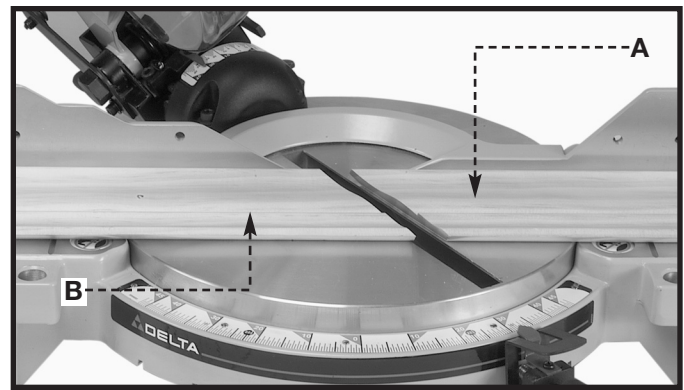

Fig. 43
3. Place the crown molding on the table with the **CEILING EDGE** of the molding against the fence, and make the cut (Fig. 43).
**NOTE:** The piece of crown molding used for the outside corner will always be on the right hand side of the blade (A) Fig. 43. The piece of crown molding used for the inside corner will always be on the left hand side of the blade, (B) Fig. 43.